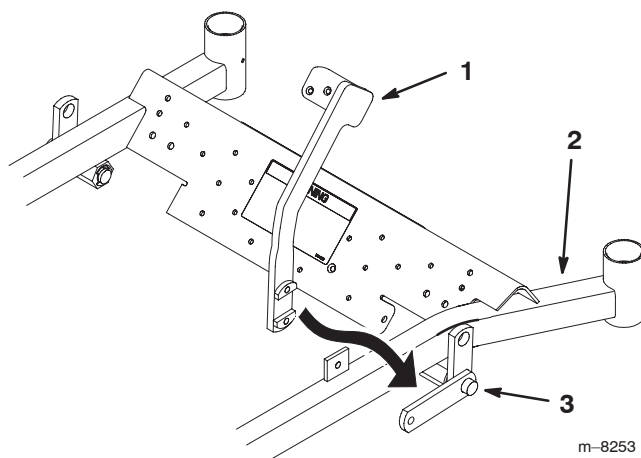

Figure 1
1. Place the lift assist lever between the frame and the lift shaft (Fig. 1).